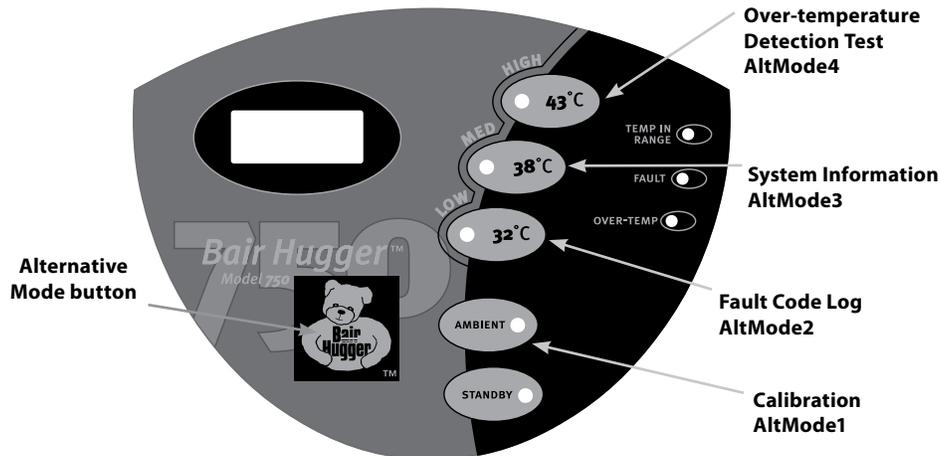

Figure 2. Location of Alternative Mode button
To enter one of the *Alternative* modes, press the **Alternative Mode** button in combination with one of the operating mode buttons, also located on the front panel. Figure 2 indicates which keys must be pressed to enter each of the 5 *Alternative* modes. When the correct combination of keys is pressed, the display reads “Hold for AltModeX,” where “X” represents the selected *Alternative* mode from the list above.
4. Press the **Alternative Mode** button (see Figure 2) and the **Ambient** button simultaneously for 3 seconds. The temperature management unit is now in *Calibration* mode. In this mode, the temperature management unit performs the following tasks:
4. Press the **Alternative Mode** button (See Figure 2) and the **43 °C** button simultaneously for three seconds. The temperature management unit is now in a *Forced Over-temperature* mode. In this mode, the temperature management unit performs the following tasks:
2. Press the **Alternative Mode** button (see Figure 2: Alternative Mode button on page 11) and the **32°C** button simultaneously for three seconds. The temperature management unit is now in *Fault Code Log* mode. In this mode, the temperature management unit performs the following tasks: